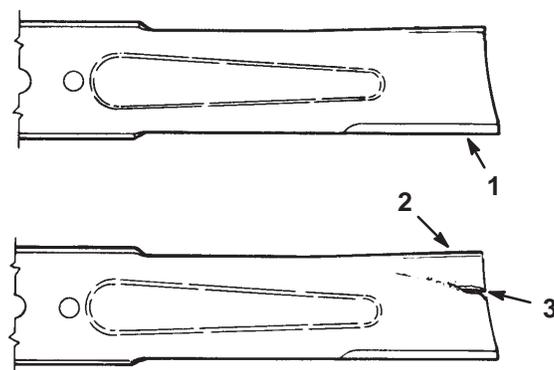

Figure 21
2. Inspect the cutting edges (Fig. 21). If the edges are not sharp or have nicks, remove the blade(s) and sharpen them; refer to Sharpening the Blade(s), page 16.
3. Inspect the blade(s), especially the curved area (Fig. 21). If you notice any damage, wear, or a slot forming in this area (Fig. 21), immediately install a new blade.